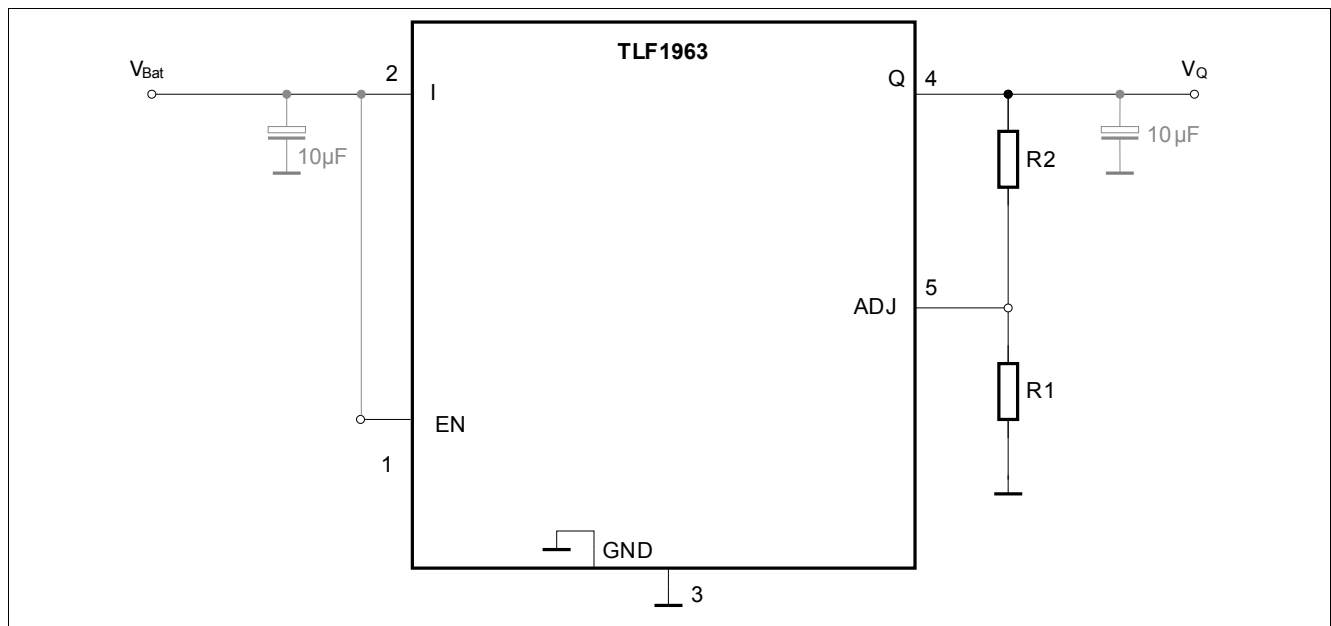

Figure 4 Application Diagram
The TLF1963 has an output voltage range of 1.21 V to $V_I - V_{dr} < 20$ V. The output voltage is set by the ratio of two external resistors as shown in Figure 4. The device serves the output to maintain the voltage at the ADJ pin at 1.21 V referenced to ground. The current in R1 is then equal to $1.21 \text{ V} / R_1$ and the current in R2 is the current in R1 plus the ADJ pin bias current. The ADJ pin bias current, 1 µA at 25 °C, flows through R2 into the ADJ pin. The output voltage can be calculated using the formula in Equation (1).